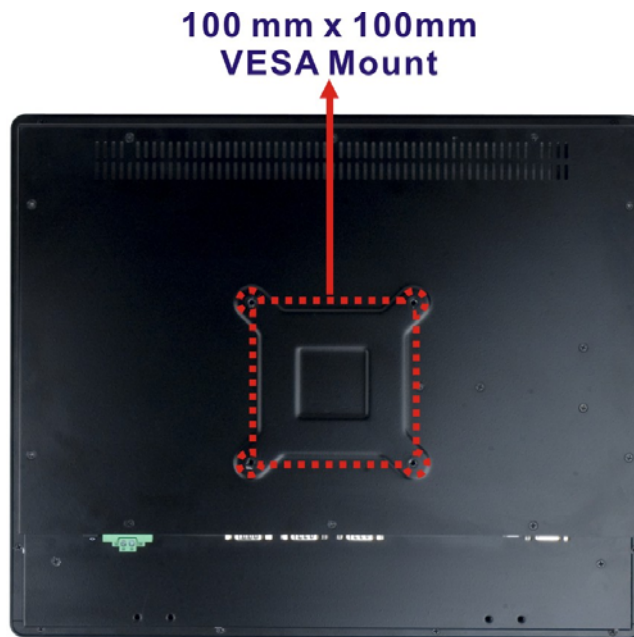

Figure 3-41: Arm Mounting Retention Screw Holes
- Step 3:** Align the retention screw holes on the mounting arm interface with those in the PPC-F12B/15B/17B/19B-BTi panel PC. The arm mounting retention screw holes of the PPC-F12B/15B/17B/19B-BTi panel PC are shown in **Figure 3-41**.